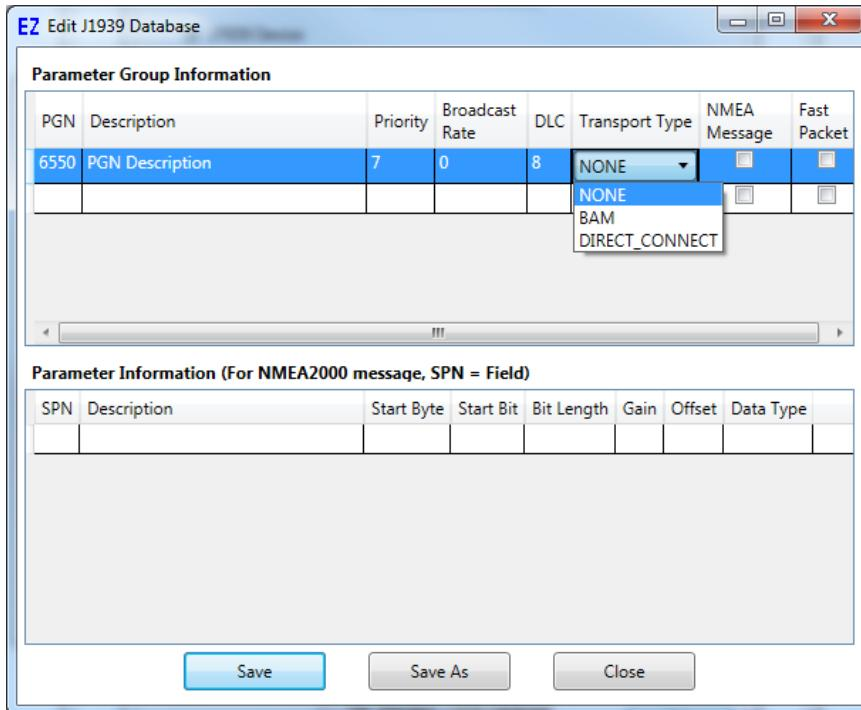

Figure 14-33
- ! The message Transport Type is defined in the database and it determines the type of message (None, BAM or DIRECT\_CONNECT). To set a PGN as a BAM message, it must be configured in the J1939/User database. Figure 14-33 illustrates the configuration options drop-down boxes.